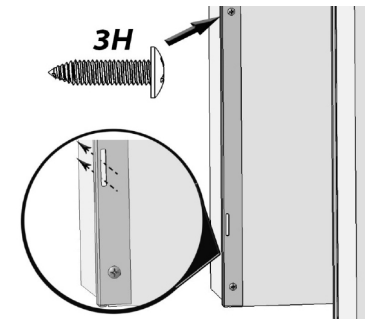

Fig. 9
- Using eight 3H screws and a power drill, attach the 2 Side Trim Attachment brackets to the front left and right cabinet cutout edges with the brackets touching the floor (Fig. 9). Ensure the rectangular slots extend over the cabinet edge.